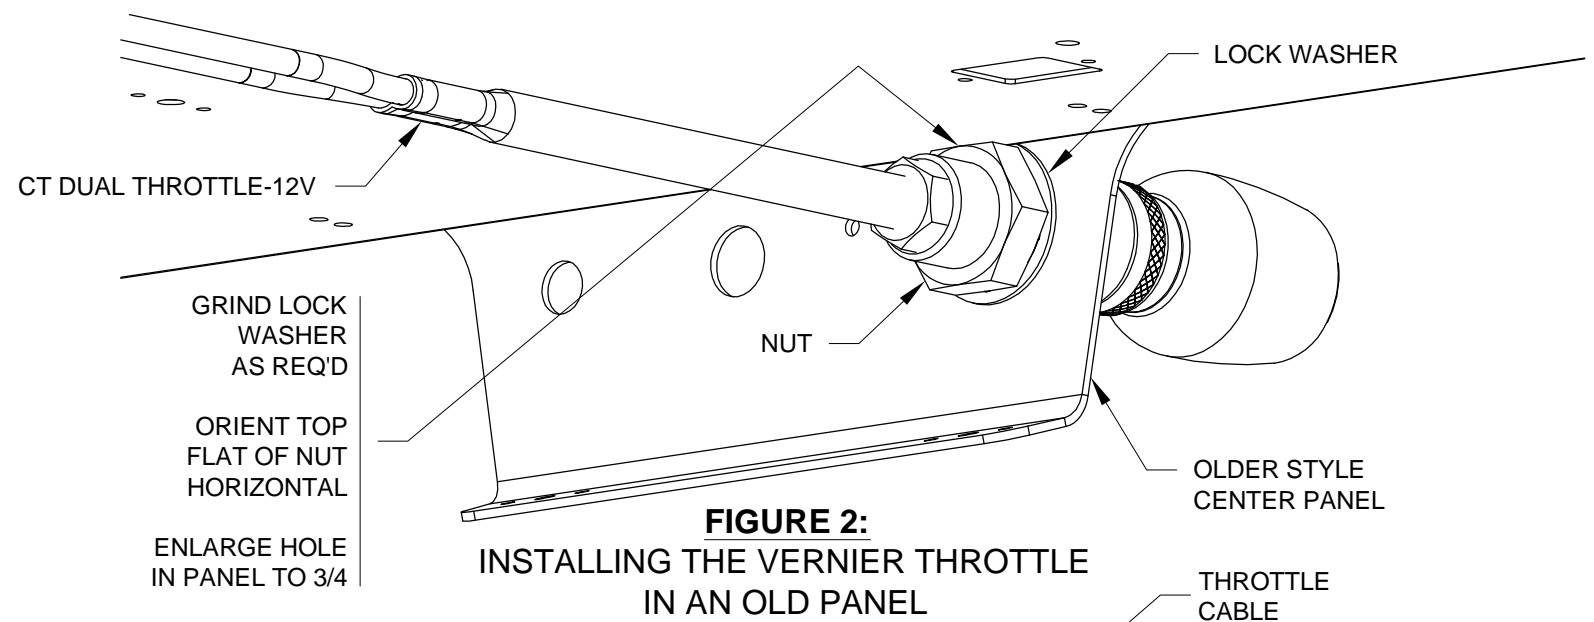

FIGURE 2:
Step 1 (Older Style Center Panel): When installing the CT DUAL THROTTLE CABLE-12V Vernier Rotax Throttle Cable there may not be enough room on older panels to turn the nut with the center panel installed. See Figure 2.